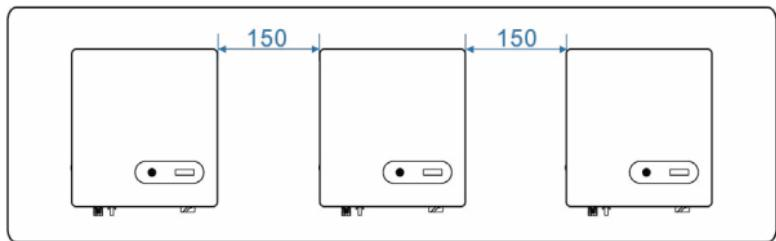
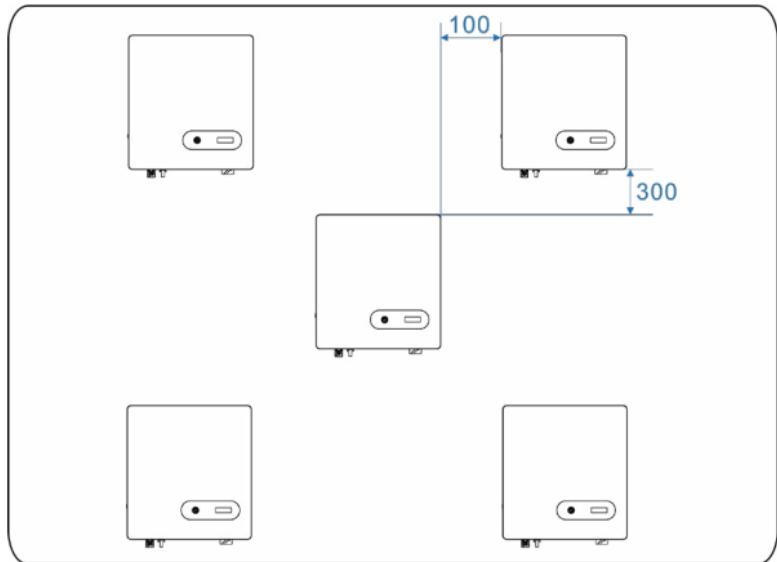

Figure 4.5 Installation along the same line (unit: mm)
Figure 4.6 Installation in triangle mode (unit: mm)
- c. When installing multiple inverter, install them along the same line (as shown in **Figure 4.5**) if sufficient space is available, and install them in triangle mode (as shown in **Figure 4.6**) or in stacked mode (as shown in **Figure 4.7**) if no sufficient space is available. The installation modes ensure sufficient space for installation and heat dissipation.